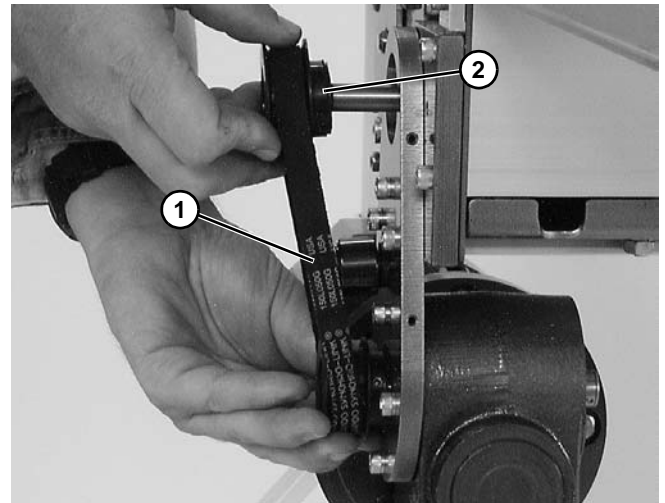

Figure 14
3. Remove timing belt (**Figure 14, item 1**).
*If timing belt does not slide over pulley flange, loosen driven pulley set screws (**Figure 14, item 2**) and remove pulley with belt (**Figure 14, item 1**). For re-installation, see steps 6 and 7 on page 9.*